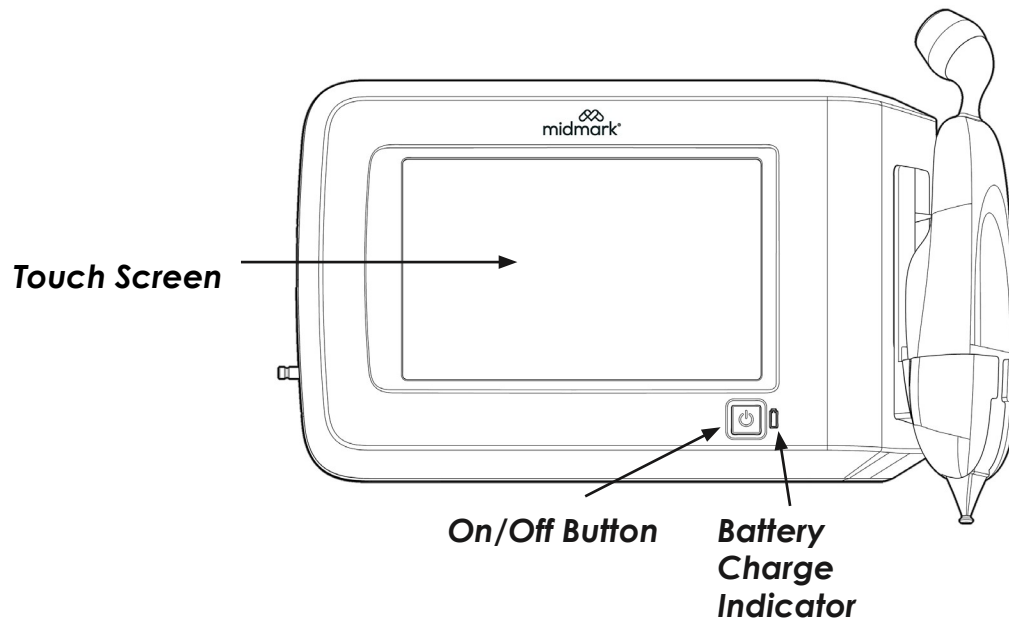

Figure 4 – Front View
1. To start the Midmark® Digital Vital Signs Device, press the On/Off button located on the front of the device just below the touchscreen (see **Figure 4**).